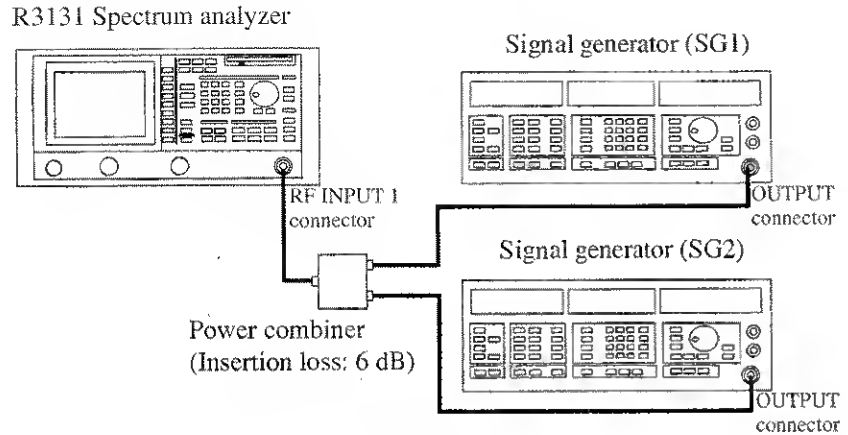

Figure 2-31 Setup for Measuring Two Signals Separately
1. Connect the signal generators as shown in Figure 2-31.